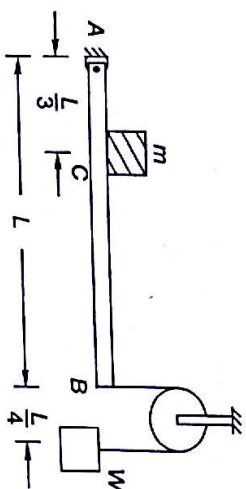

Fig. 3.64
3.7 A bar AB of length L is hinged at end A. It carries a block of mass m at C as shown in Fig. 3.64. What is load W at end of rope passing over a pulley so as to maintain equilibrium?